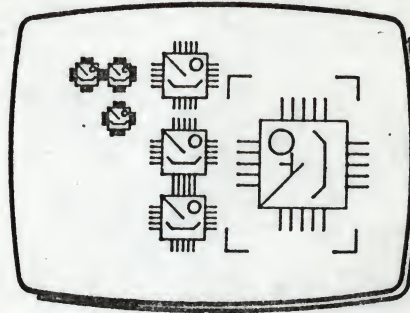

Fig 1
- 3 Plant different sizes of the symbol at various position as shown in Fig 1 (those at top left are at 12.5%).